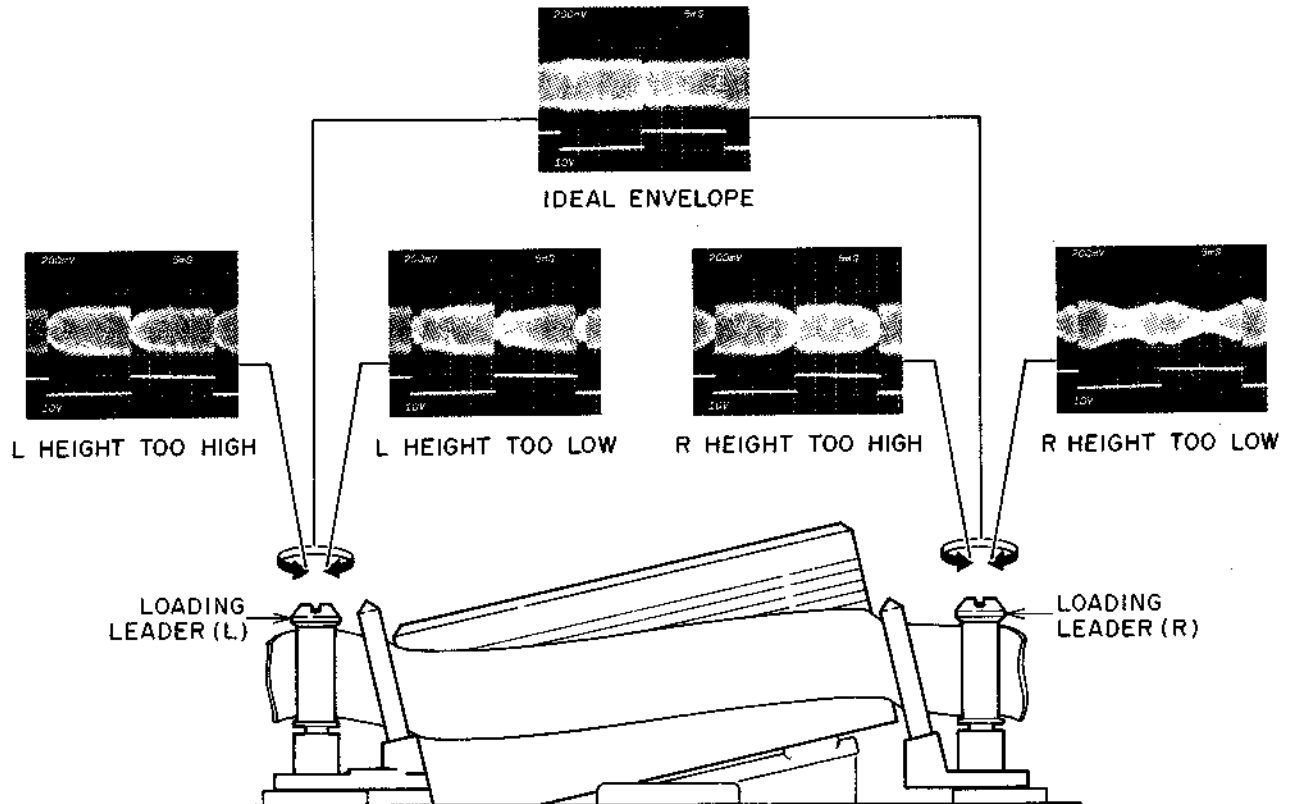

Fig. 6-5-2
- 3) Connect an oscilloscope to **TP7** on the **VIDEO PC Board (RF ENVELOPE)**, turn the **LOADING LEADER** height adjustment screw head to obtain the flat envelope as Fig. 6-5-2 ideal envelope. After the adjustment, tighten the **LOADING LEADER** set screw.
- 2) Slightly turn the LOADING LEADER HEIGHT ADJUSTMENT SCREW HEAD (L) (R) to obtain the IDEAL ENVELOPE as shown in Fig. 6-5-2.